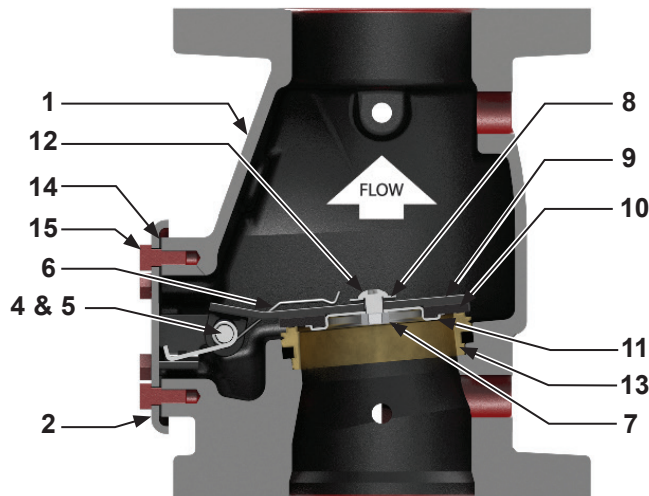

Figure 3 - Replacement Parts
Five-Year Internal Inspection (Refer to Figure 3)
Maintenance (Refer to Figure 3)
2. To remove clapper rubber (10):
- a. Use the appropriate wrench to loosen and remove the button-head socket screw (12), hex nut (7), sealing washer (8), and rubber retainer (11).
- b. Remove the clapper rubber (10) for inspection. If the clapper rubber shows signs of wear such as cracking, cuts, or excessively deep grooves where the rubber contacts the water seat, replace the rubber.
3. To re-install clapper rubber (10):
- a. Place clapper rubber (10) over the center hub of the rubber retainer (11).
- b. Position the retainer (11) (with rubber in place) against clapper (9) as shown in Figure 3.
- c. Replace and tighten the button-head socket screw (12), sealing washer (8), and hex nut (7), as shown in Figure 3. DO NOT over-tighten.
4. To remove the clapper (9), spring (6), and/or hinge pin (4), remove hinge pin retaining rings (5), to free the hinge pin (4) for removal. After the hinge pin (4) is removed, the clapper (9) and spring (6) can be removed.
5. To re-install the clapper (9), spring (6), and/or hinge pin (4):
- a. Verify that the clapper rubber (10) is in good condition and that it is properly installed.
- b. Position the clapper (9) with the elongated hinge holes aligned between the holes of the hinge bracket welded inside the cover (2). The system (top) side of the clapper (9) must face the direction indicated by the flow arrow stamped inside the cover (2).
- c. Insert the hinge pin (4) through the holes at one end of the hinge assembly. Before continuing, re-install the spring (6), using care to orient the spring as shown in Figure 3. Continue to push the hinge pin (4) through the holes at the remaining end of the hinge assembly.
- d. Re-install the hinge pin retaining rings (5).
- a. Verify that the cover gasket (14) is in position and that it is in good condition.
- b. Slide the cover/clapper assembly (2-12) into the Alarm Valve so that the clapper rubber (10) contacts the grooved water seat (13).
- c. Replace cover screws (15). Use the appropriate wrench to evenly cross-tighten all screws to the torque values listed in Table 2 for the valve used. DO NOT over-tighten.